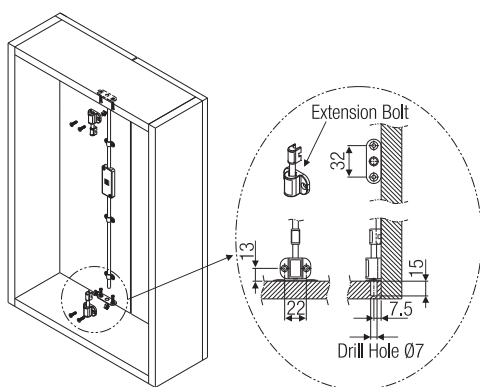

Fig. 2
2. Fix the Extension Bolt and Receiver plates to the bottom and top of the cabinet as shown in Fig. 2.